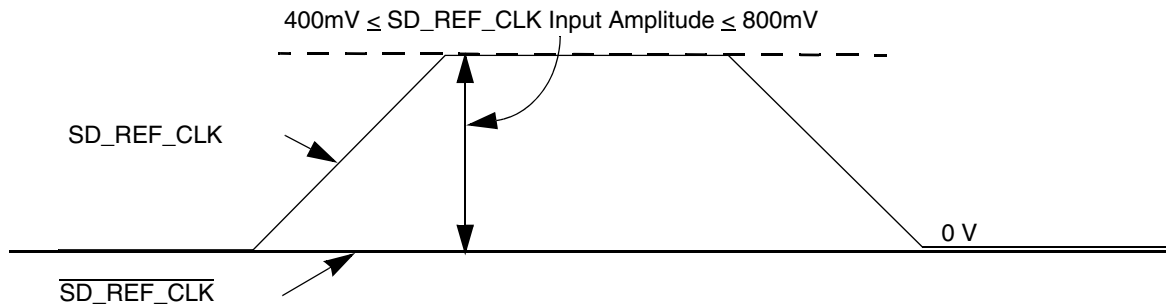

Figure 40. Single-Ended reference clock input DC requirements
- The $\overline{\text{SD_REF_CLK}}$ input average voltage must be between 200 and 400 mV. Figure 40 shows the SerDes reference clock input requirement for single-ended signaling mode.